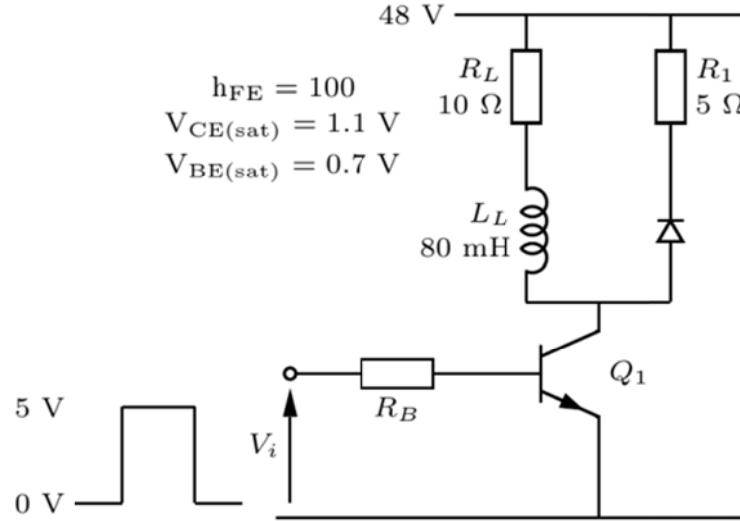

Figure 3a
- Calculate the emitter injection efficiency. Assume that the current due to each carrier is proportional to the conductivity of the semiconductor from where it originates. (4)
- Calculate the current gain if the base transport factor, $B = 1$. (2)
- c. Describe the main contributing mechanism which results in the small reverse leakage current in a p-n junction? (3)
- i. when using a semiconductor with an increased bandgap or bond strength? (2)
- ii. at a lower diode temperature? (2)
- d. The reverse leakage current in a p-n junction at room temperature is $1 \times 10^{-6} \text{ A}$. What applied forward junction voltage will give a current of $1 \times 10^{-2} \text{ A}$? In your calculation assume that the exponential term in the diode equation is $\gg 1$. (4)
- The actual measured voltage across the diode terminals required to give this current is 25 mV higher than the value calculated above. Explain why this happens? (2)
- a. Using the information provided in figure 3a find,
- i) the load current when the transistor has been on for a long time. (1)
- ii) the energy stored in the inductor assuming the transistor has been switched on for a long time. (1)
- iii) the power dissipated in the load. (1)
- iv) the power dissipated in the switch. (1)
- v) the base resistance, R_B . (1)
- vi) the NPN bipolar transistor in figure 3a is replaced with an N-channel MOSFET. What value of $r_{ds(on)}$ would the MOSFET need to have in order to yield the same on-state power dissipation as the bipolar transistor. (4)